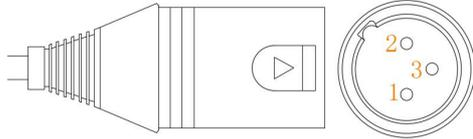
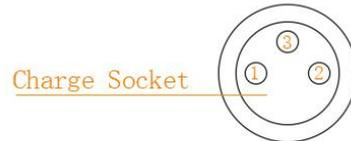

Figure1: Charger Plug
Figure2: Battery Charging Socket
① The controller is turned on and the meter display is normal. At the same time, long press the ‘’ key and ‘’ key for about 3 seconds, the controller sends out 2 beeps after releasing the combination of keys, enter the engineering control interface, such as Figure 1 (engineering interface I), Figure 2 (engineering interface II).
Battery charging method for electric wheelchair: Insert charger plug (Figure 1) into the battery charging socket (Figure 2) of the controller as shown below: